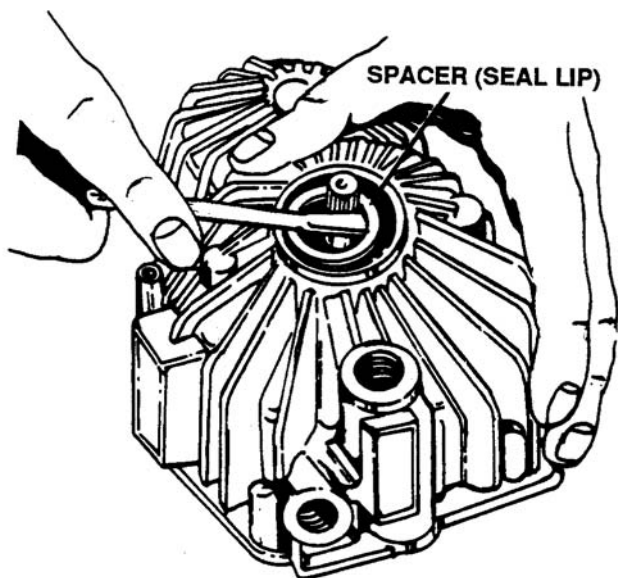

Figure 6-26. Removal of Spacer
c. Remove spacer. See Figure 6-26.